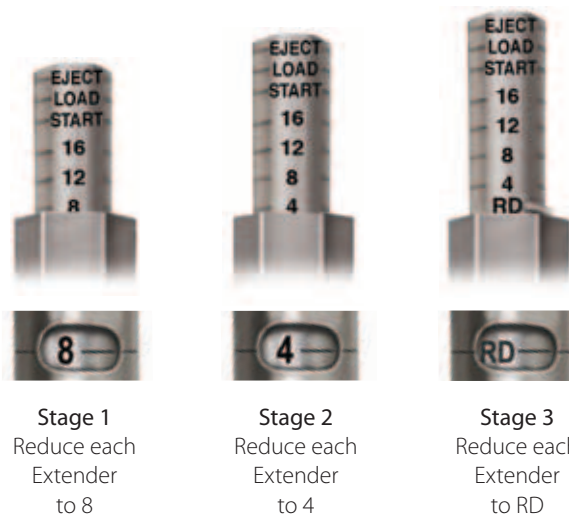

Figure 50
*It is important to reduce the Extenders in stages (Figure 50). The complete reduction of one Extender without reducing the others will cause the Rod to put a strong force on the other Extenders, which can cause difficulties when reducing the others.*